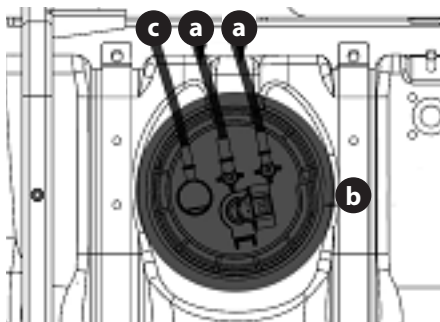

Figure 42
3. There are two main lines (a) coming into the primary fuel filter (b) and one vent line (c) leading to the carbon canister (Figure 42).